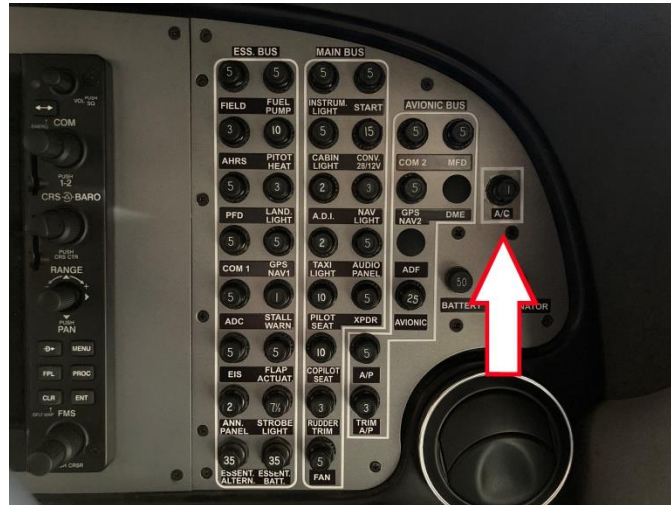

Figure 46 - Install Placard and Circuit Breaker
- A. Connect AC-02190 Harness to the controller or toggle switch harness. Use the provided splices and wired ring terminals to connect the AC-02190 Harness to the 1A circuit breaker and ground per AC-02165 Schematic. Apply AC-02348 Circuit Breaker Placard, and then mount the 1A circuit breaker. Reference Figure 46 for an example of placement.